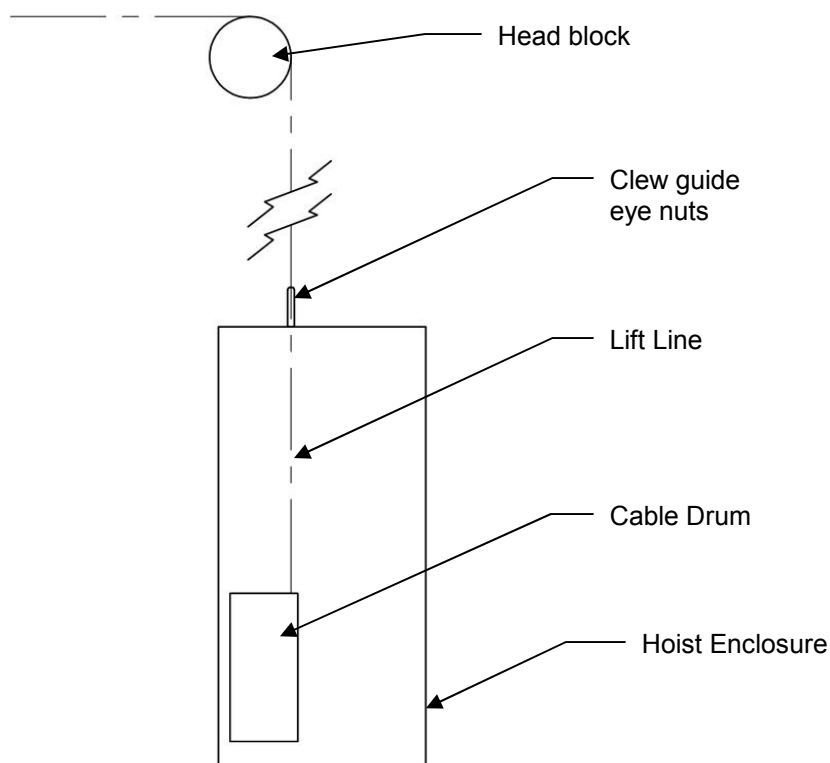

Figure 1 – Lift Line Alignment
2. Align the clew guide eye nuts with a plumb line from the fire curtain headblock (as shown in Figure 1 above). This will minimize the change in fleet angle during the full travel of the clew/arbor.